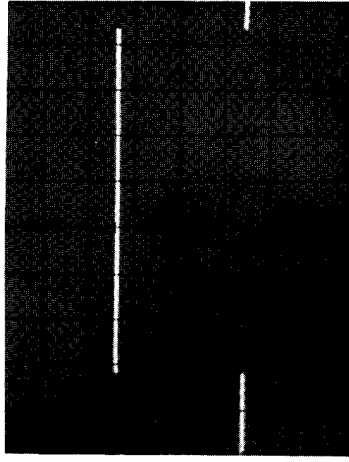

Figure 4b. Magnified Display
3. Press MAG X10 **8** and adjust horizontal fine POSITION **12** for precise placement of magnified display (figure 4b).